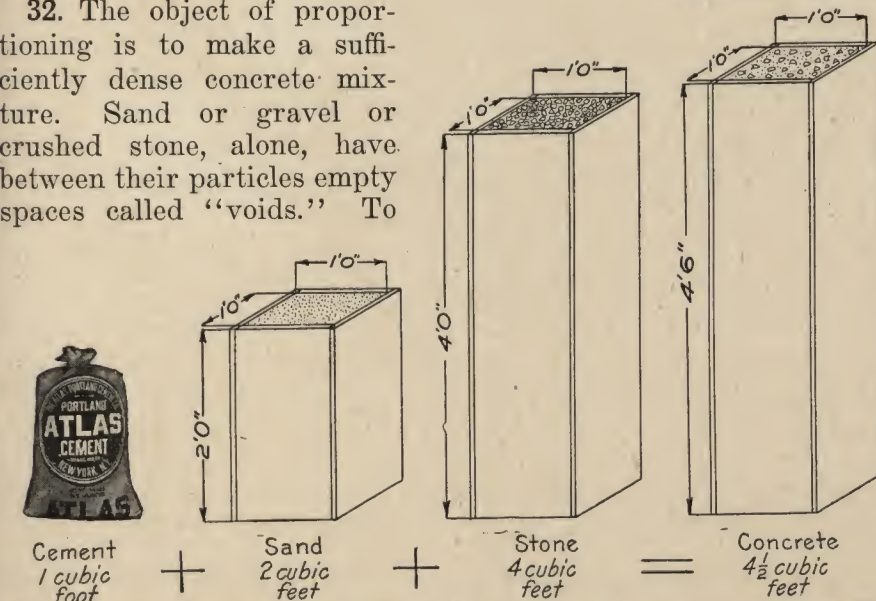

Fig. 6—Above, volumes of the three materials and—at the extreme right—resulting volume of concrete.
33. If you bear in mind what has been said about voids—that sand fills in voids in the stone, and that the cement fills in the voids between the grains of sand—then you will not make the common mistake of estimating that one cubic foot of cement, two cubic feet of sand and four cubic feet of stone will make seven cubic feet of concrete. Because so much of the material is used up filling voids, the actual total quantity of concrete obtained by mixing these quantities of aggregates is only a little more than the quantity of stone—four cubic feet—see Figure 6.
Note.—The mortar and concrete tables below give the cubic foot quantities of mortar and concrete respectively resulting from each of the mixtures shown. See Fig. 6 on page 7.